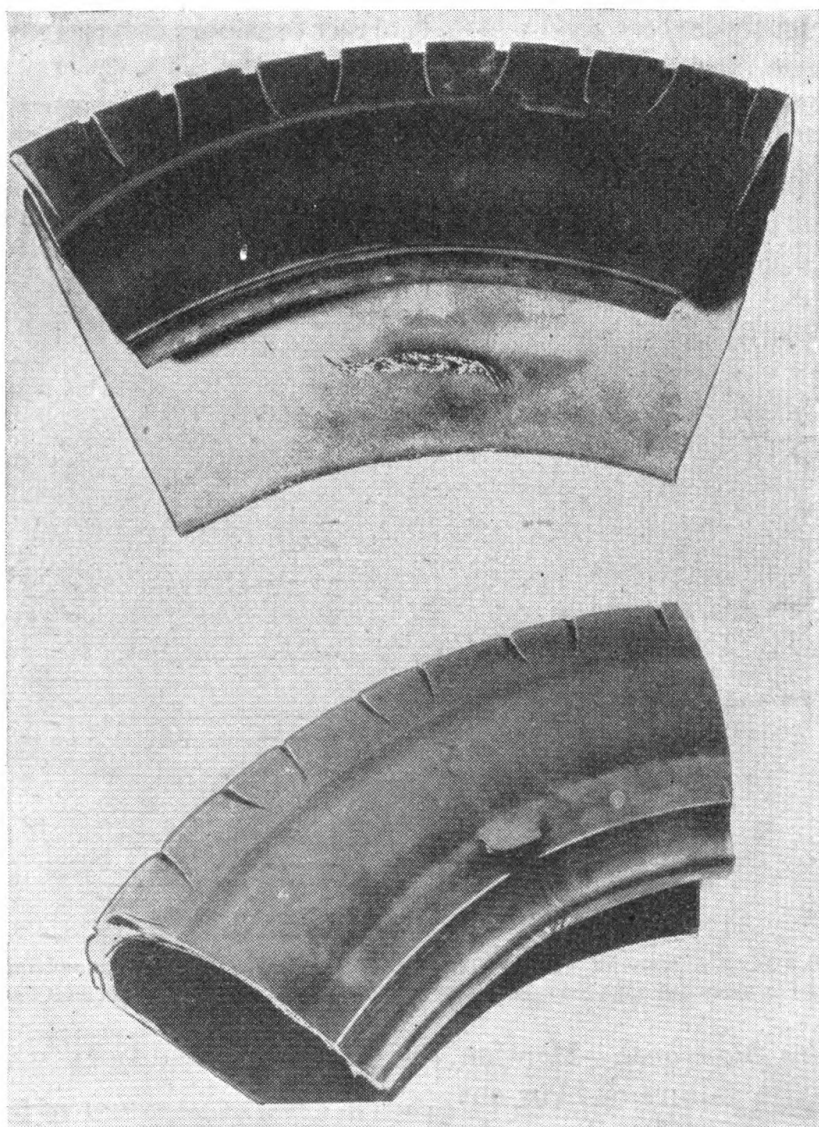

FIGURE 7.—Rim bruises. (Outside and inside rim bruises all caused by underinflation. Daily check on tires would have prevented this damage.)
- (1) Stones and nails which were not removed from tires or which were wedged between dual tires.
- (2) Bruises on tires caused by drivers scraping sidewalls along curbs.
- (3) Treads worn smooth with fabric showing through.
- (4) Tires with treads worn unevenly because wheels were not in proper alinement or balance, or because tires of different sizes were used on opposite wheels on the same axle.
(5) Underinflated tires becoming hot at high speeds and overinflated tires expanding beyond strength of tires. (See fig. 7.) Explain that when a tire blows out, a vehicle tends to swerve off the road, or perhaps into the path of oncoming vehicles, and that it takes an extremely alert, well-trained driver to hold a vehicle on the road in the event of a blow-out.